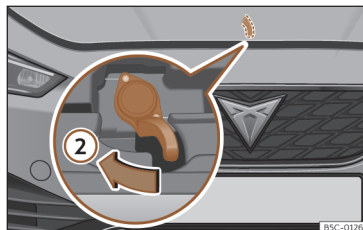

Fig. 215 Lever under the bonnet.
- To lift the bonnet, press towards the left on the lever located under the bonnet, in the centre >>> **Fig. 215** ②. The fastening hooks are unlocked.